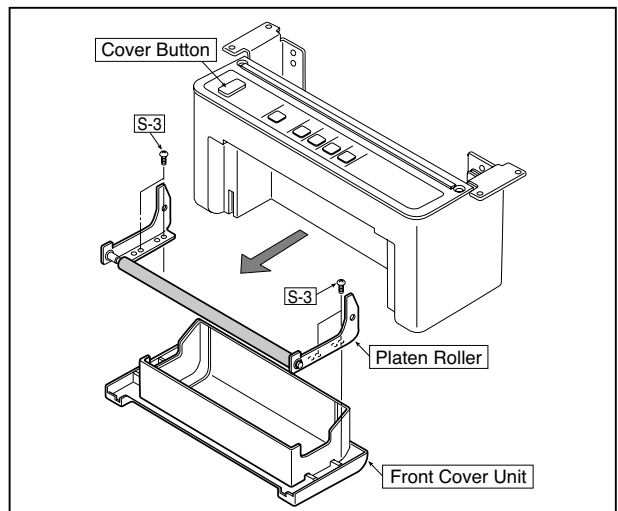

Fig.3
- 3.Remove the Front Cover Unit while pressing the Cover button shown in Figure 3.